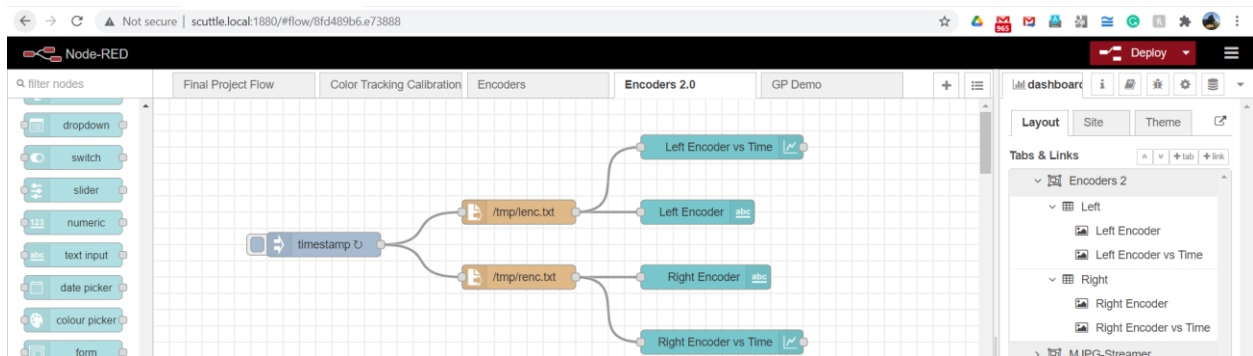

Figure 28
- c. It should create a flow that looks like Figure 28 below: